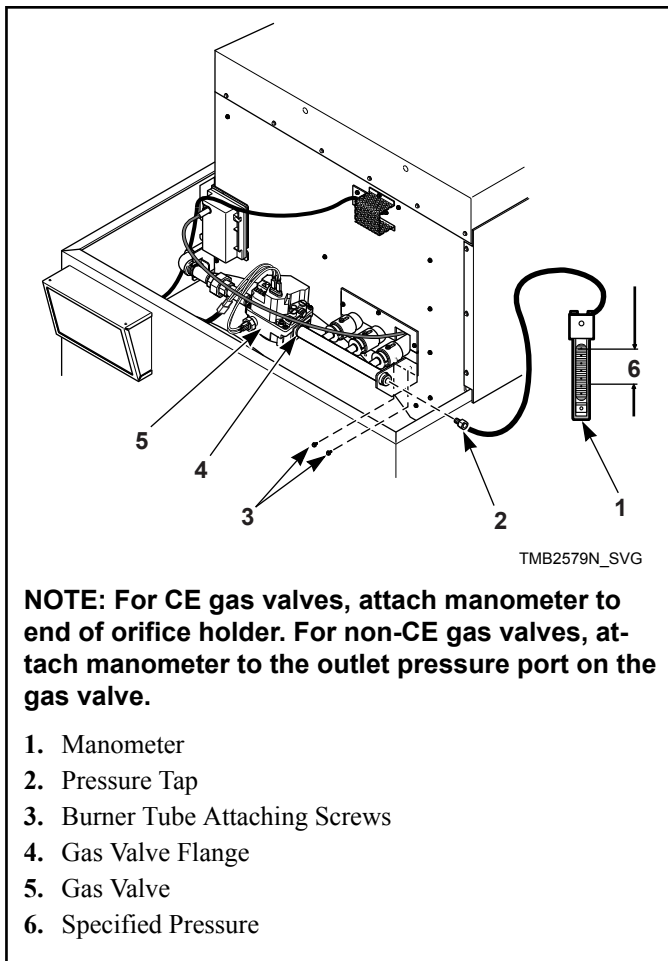

Figure 8
4. Start tumble dryer and note pressure once flame is burning. Remove regulator cap and adjust regulator screw until the burner orifice pressure per applicable table is achieved. Replace regulator cap. Refer to *Figure 8*.
1. Check gas burner orifice (manifold) pressure as follows. Refer to *Figure 8*.